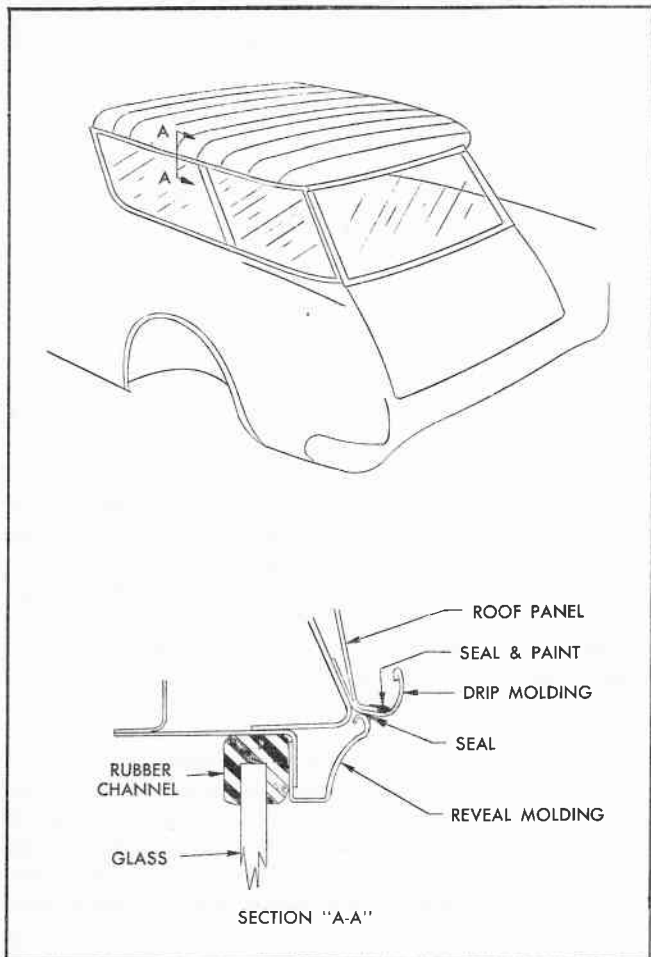

Fig. 37 Rear Quarter Window Area -
2. Apply a good grade of body caulking compound to any sealer gaps noted in roof panel and drip molding joint as indicated in Section "A-A" Fig. 37. Clean off excess compound.
3. Apply thin bead of caulking compound to joint at drip molding and rear quarter window upper reveal moldings, as shown in Section "A-A", Fig. 37